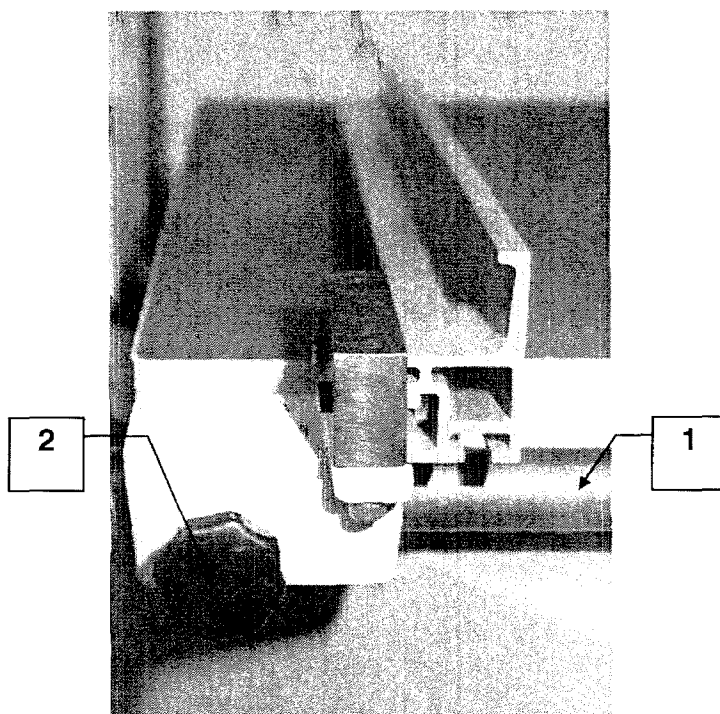

Figure 5.10
5.10 Setting the Rip Fence (Figure 5.10)